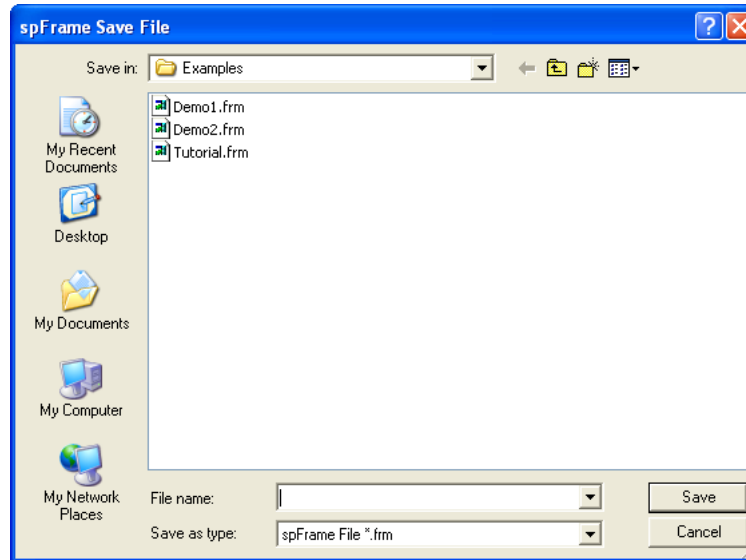

Figure 3-3 Save As dialog box
- From the **File** menu, select **Save As**. The dialog box of Figure 3-3 appears.